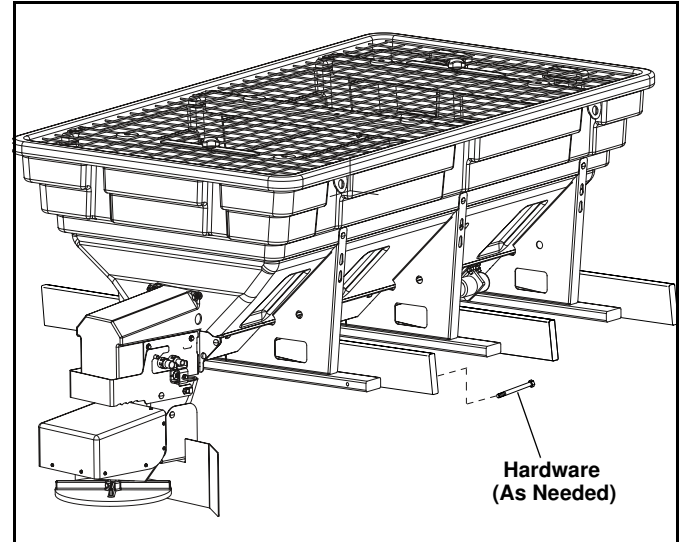

**Figure 1-10**
3. Using suitable tie-down straps or chain, secure the spreader to the vehicles factory installed anchor points using two tie-down brackets on each side of the spreader hopper. (See Figure 1-10)